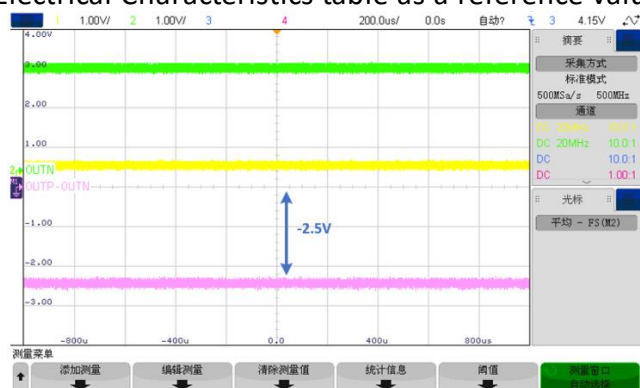
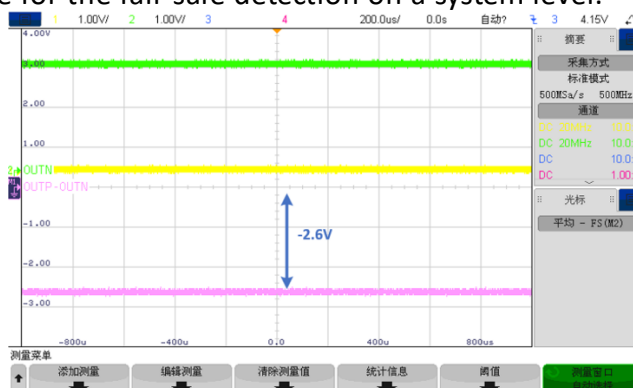

Figure 27. Typical Negative Clipping Output of Pai8302E(Q)
Figure 28. Typical Fail-Safe Output of Pai8302E(Q)
- When the high-side supply VDD1 of the Pai8302E(Q) is missing, or
Fig27 and Fig28 show the fail-safe output of the Pai8302E(Q) as a negative differential output voltage value that does not occur under normal device operation. Use the $V_{FAILSAFE}$ voltage specified in the Electrical Characteristics table as a reference value for the fail-safe detection on a system level.